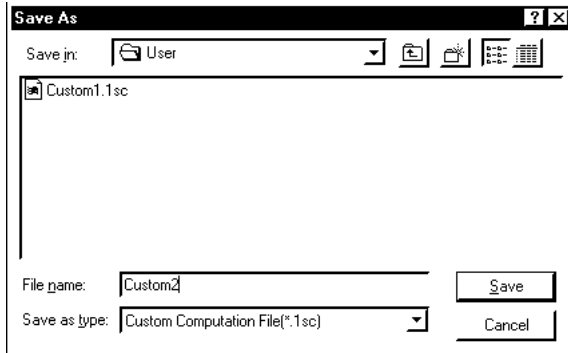

Figure 7.3.3 [Save As...] Dialog Box
- ① From the tool menus, choose <File>, then <Save As...>. The [Save As...] dialog box (Figure 7.3.3) appears.